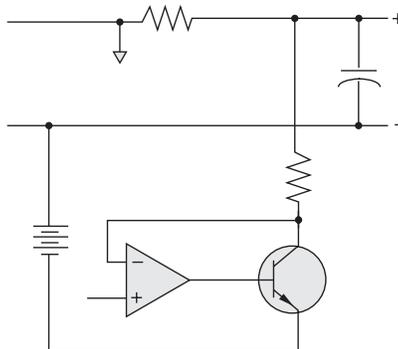

Figure 7. A down programmer situated between power supply's positive output and a negative source
- In Figure 7, the down programmer lies between the power supply's positive terminal and a negative source. This configuration pulls the output completely down with no degradation near zero.